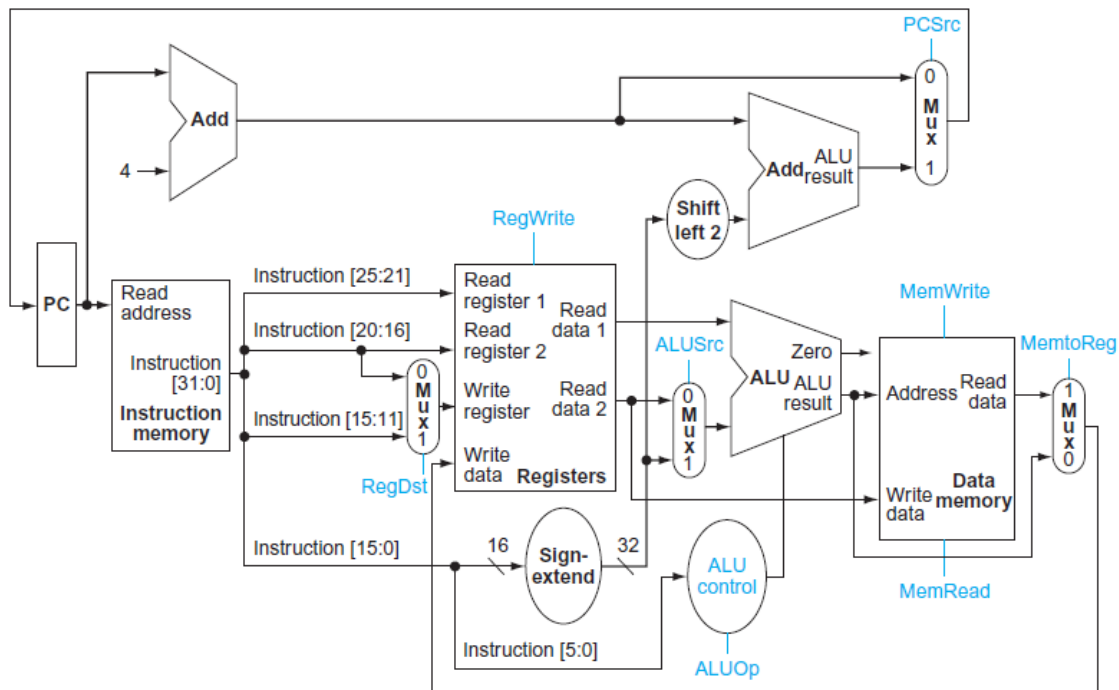

Figure 12.1 Complete MIPS microprocessor
**Congratulations** on your hard work and dedication to complete your own MIPS-32 processor implementation! Implementing a working processor is not a trivial task, but you have done it. You should be proud of yourself that you came this far, considering that you had no experience in either VHDL or processor design at the beginning of the class. In this lab you will complete the MIPS-32 processor design by adding all the modules together as shown in Figure 12.1